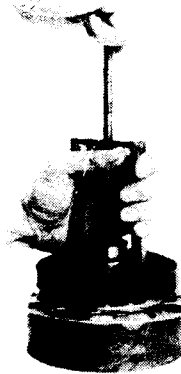

Fig. 37 Removal of Pulley Side Bearing
- 8) To replace the brake lining, remove the bearing at pulley side (Fig. 37) and replace with new brake lining and bearing. (When the bearing was disassembled, it must be replaced with a new one.)